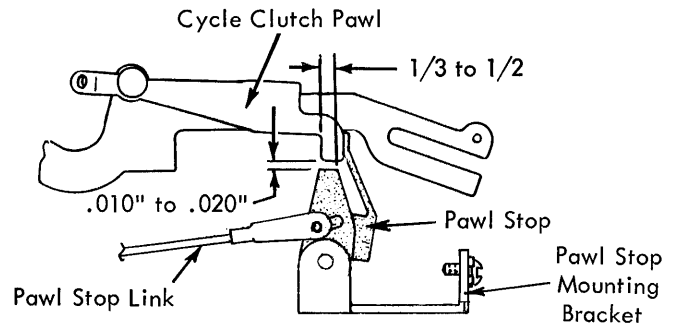

**FIGURE 61. Keyboard Interposer Lock Link**
- b. Adjust the keyboard interposer lock link so there is .010" to .020" clearance between the interposer and the interposer lock assembly with everything in the unlocked position (Fig. 61).